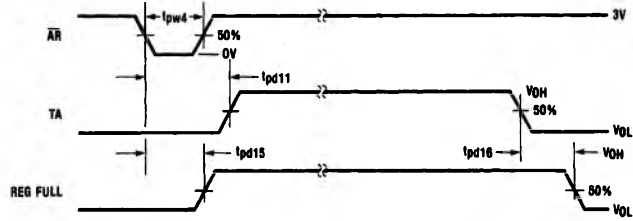

FIGURE 10. Timing Waveforms for Auto-Response
**Note 7:** For the IBM 3270 Interface, the data rate frequency is 2.358 Mbits/s. 28 MHz clock frequency corresponds to 3.75% jitter when referenced to *Figure 10* of DP8341 Datasheet.